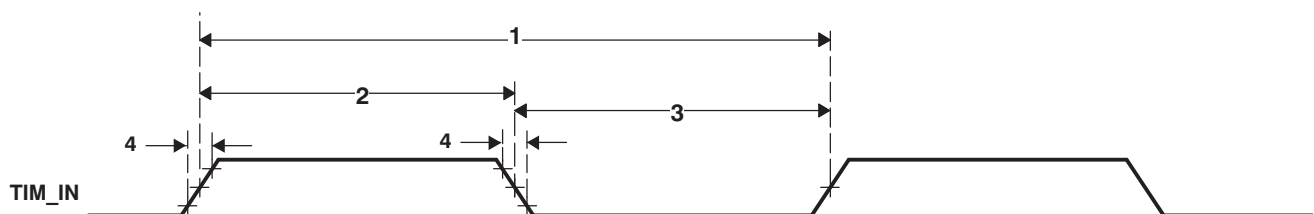

Figure 5-46. Timer Input Timing
Table 5-45. Timing Requirements for Timer Input^{(1) (2) (3)} (see Figure 5-46)